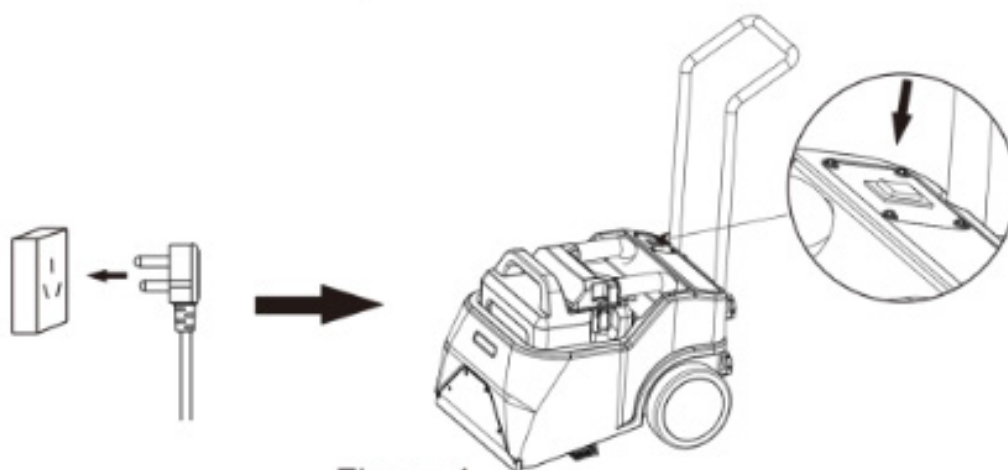

Figure 4
2. Connect the machine to the power supply. Press the Water Absorption switch to start the operation. (See Figure 4)